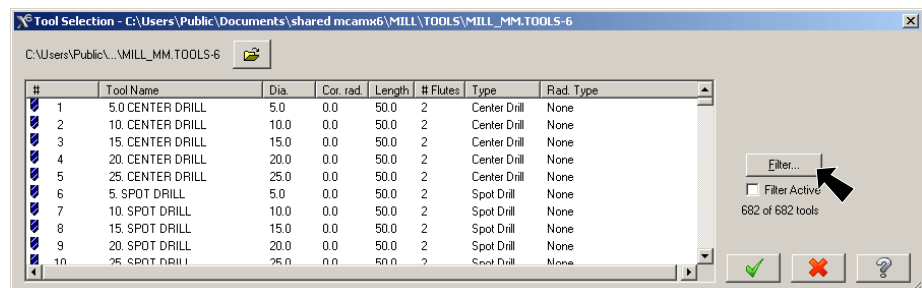

Fig. 21
Step 9. Click the **Filter** button, **Fig. 21**.